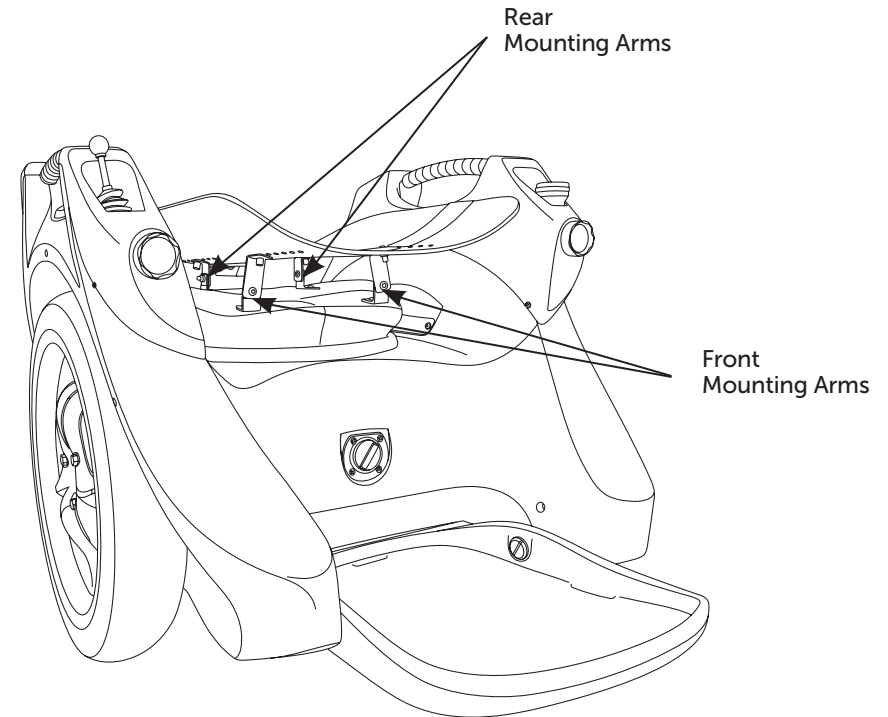

Figure 44: The Omeo Seat showing the Mounting Arms.
3. Using the 5mm Allen key and 10mm Spanner provided, loosen the 4 screws on the Mounting Arms (as located in **Figure 44**). This will allow you to move the Mounting Arms (brackets) up or down to suit.